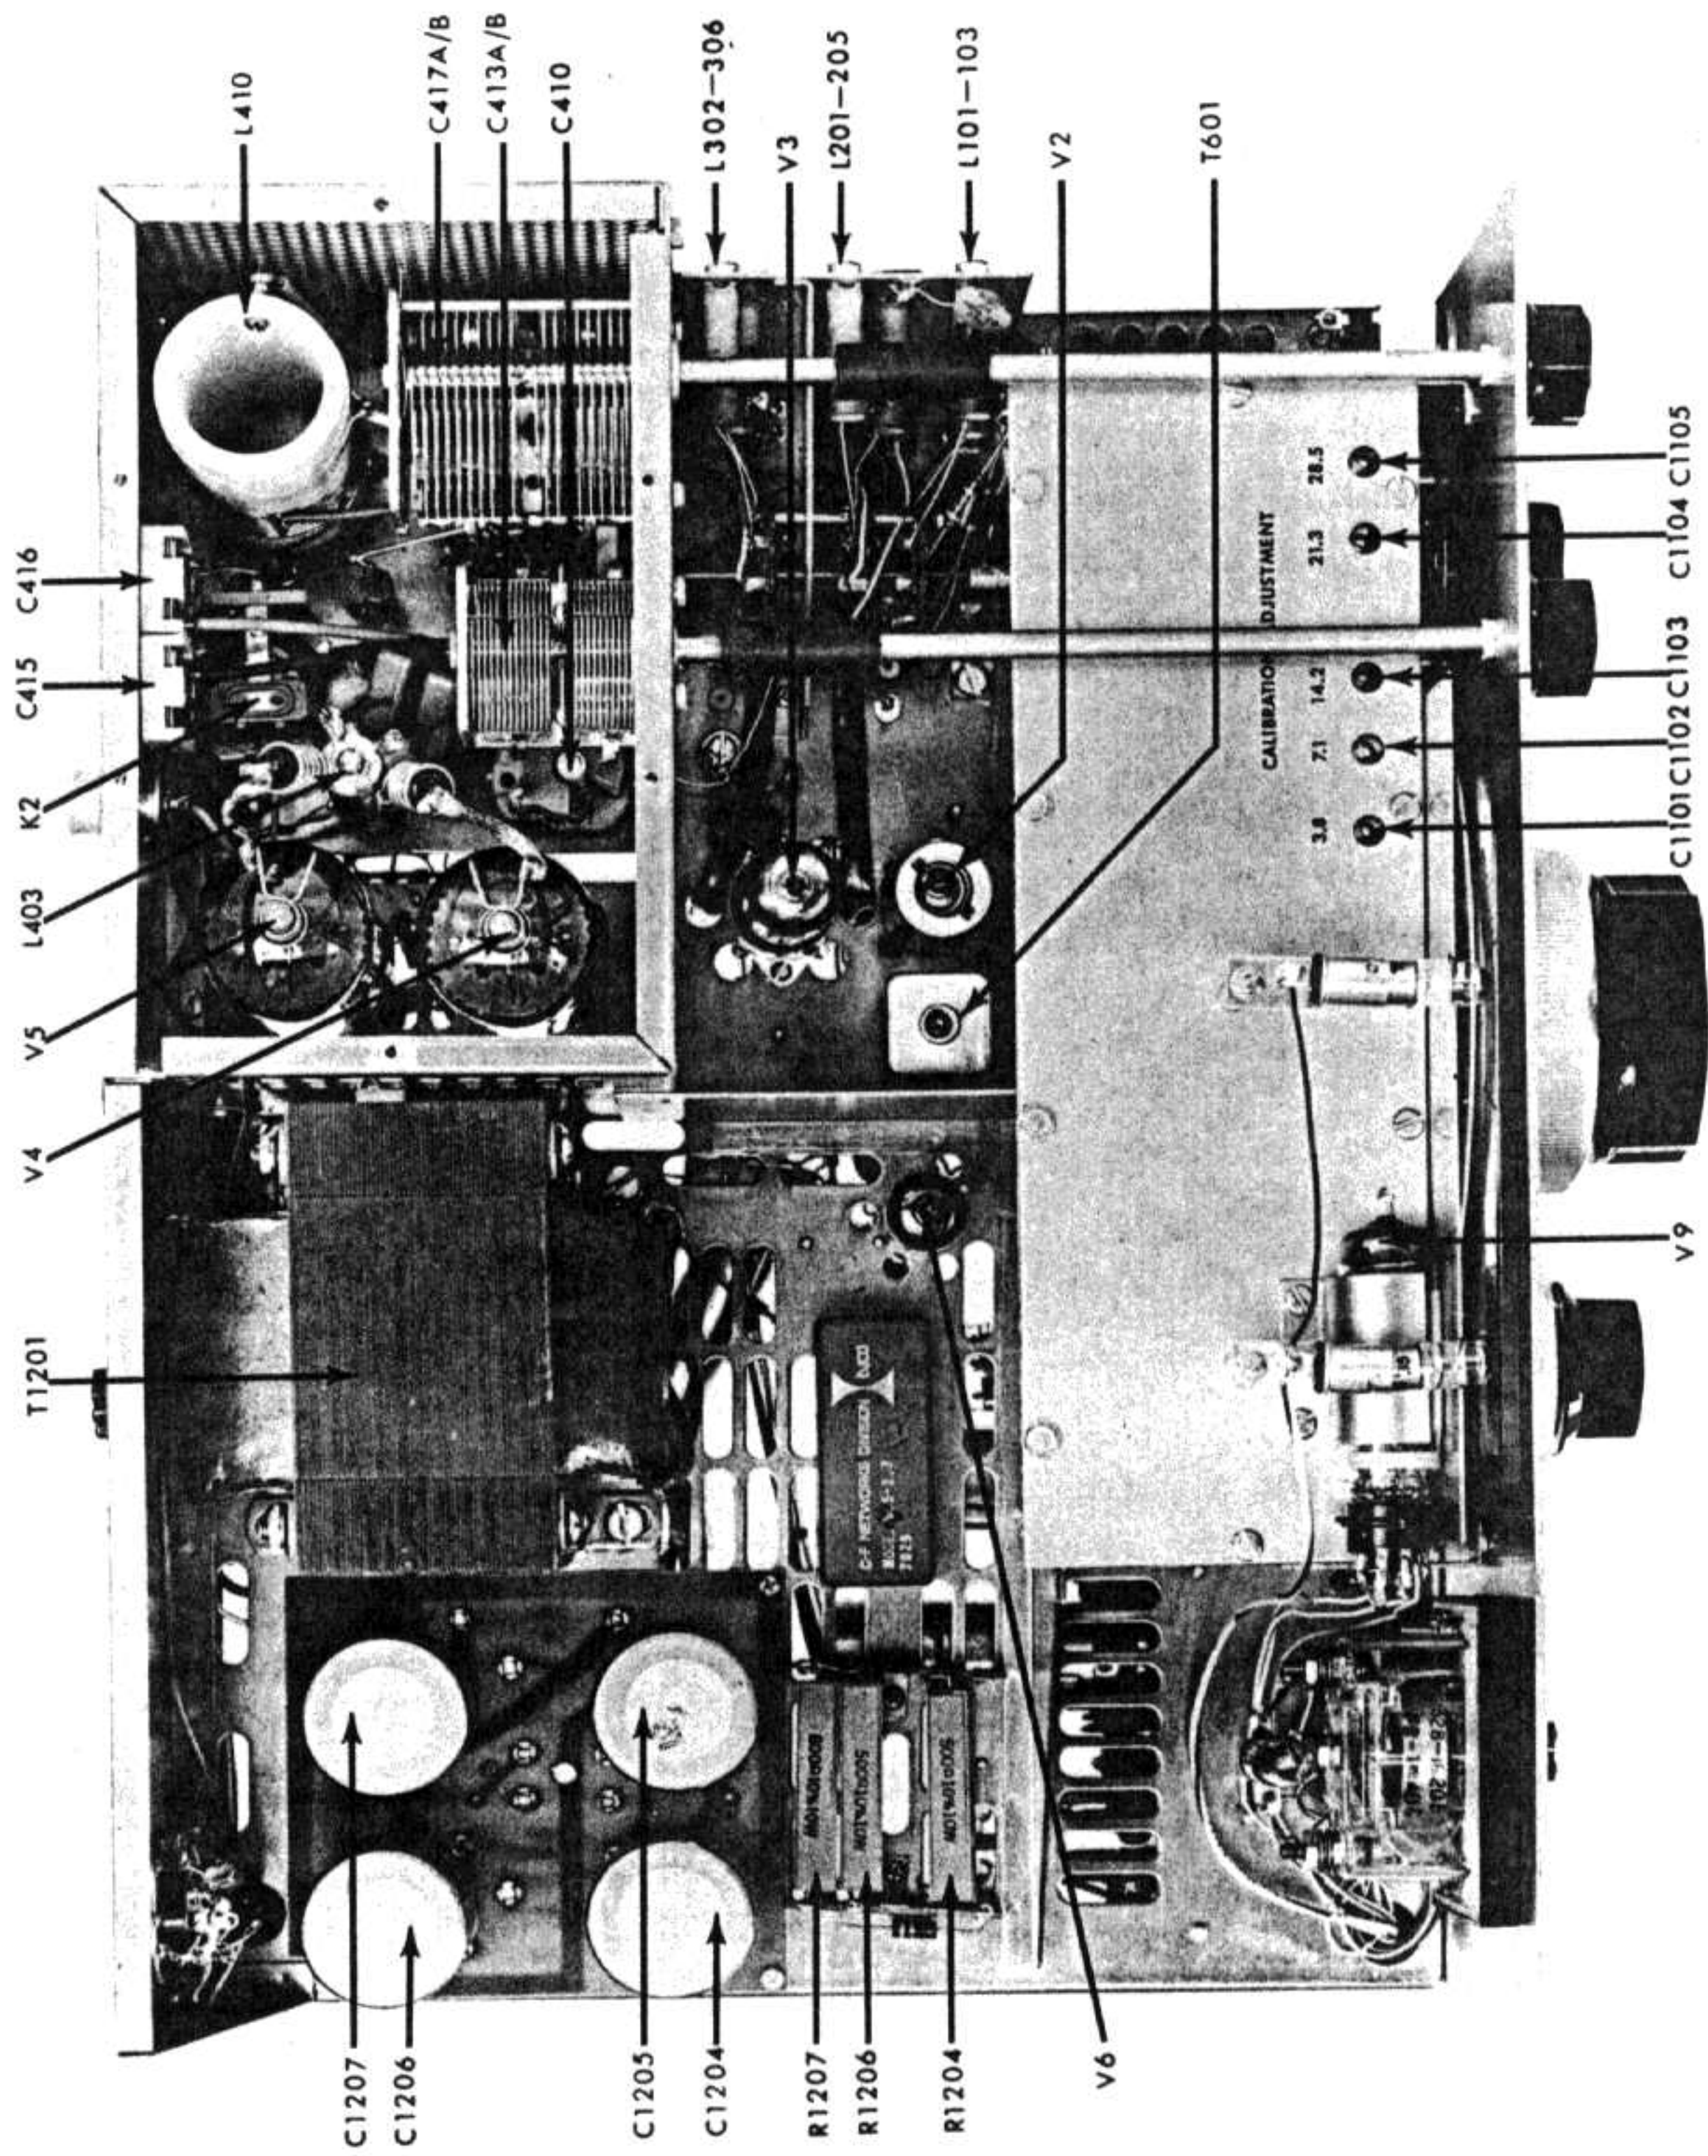
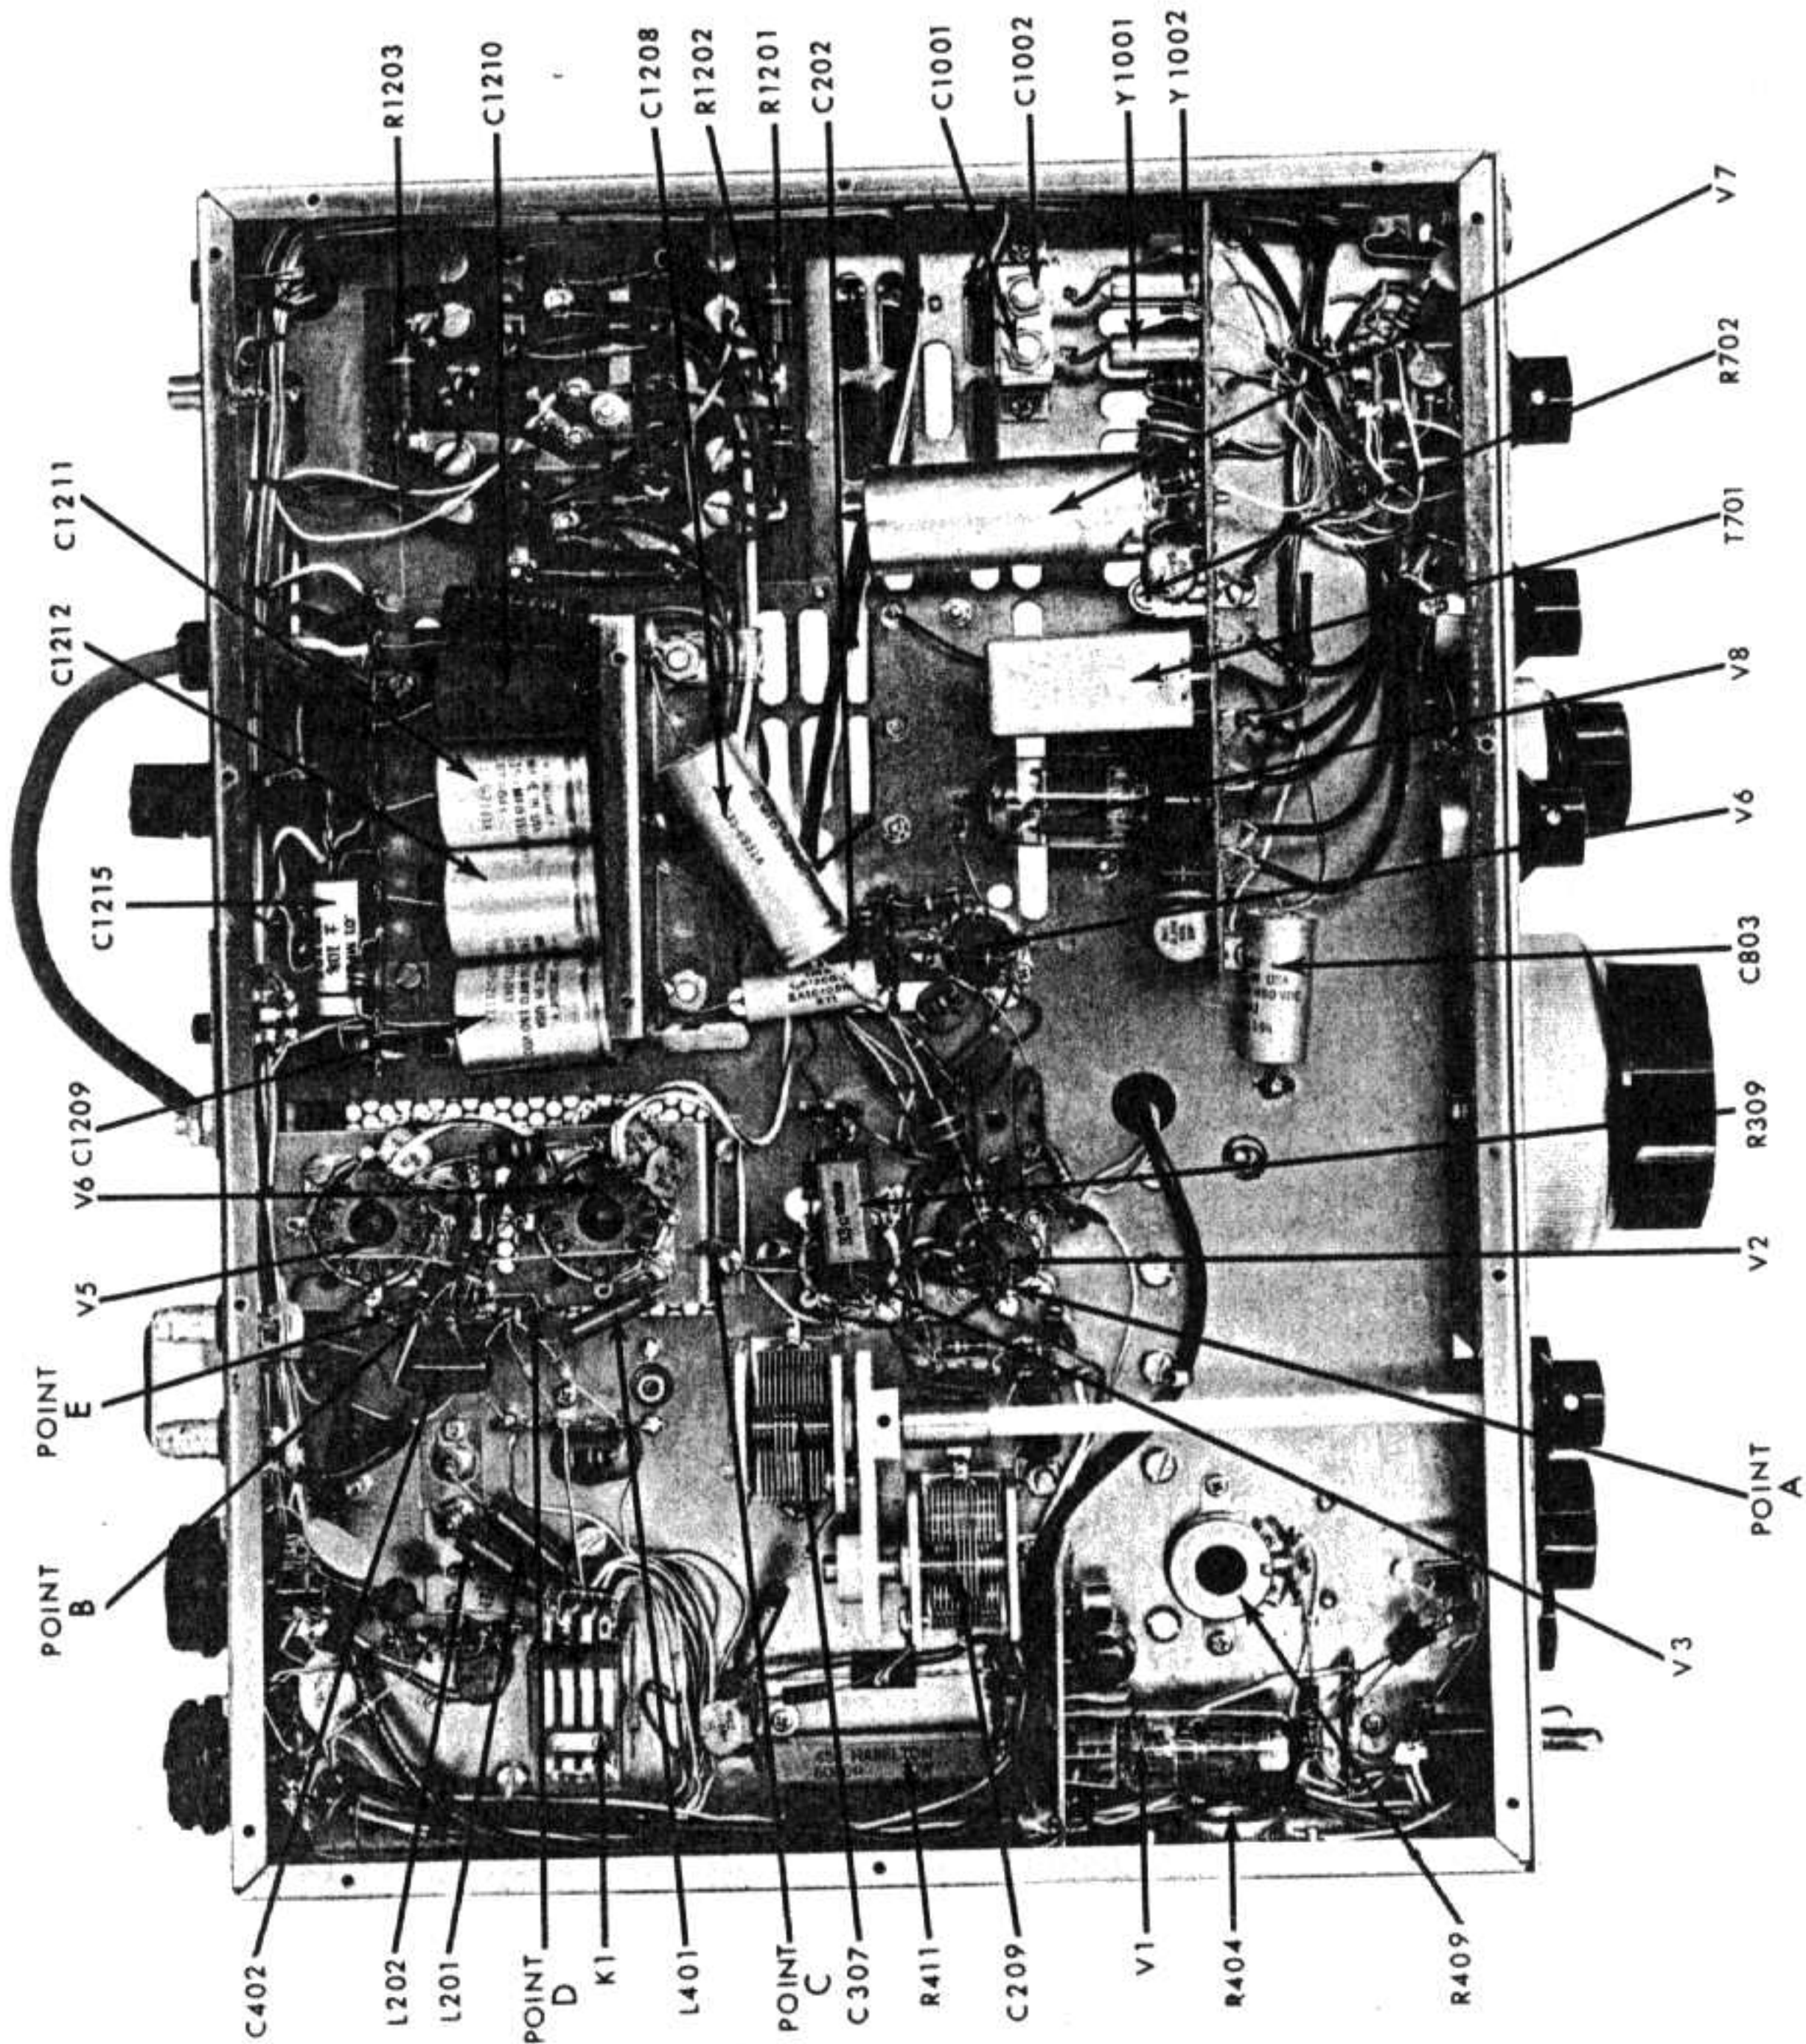

FIGURE 4. TOP VIEW OF 600-T
FIGURE 5. BOTTOM VIEW OF 600-T
- ① Set MAIN TUNING dial to 0.
- ② Rotate DIAL SET control to 0.
- ③ Connect VTVM from pin 1 of the Mixer (Point A, Figure 5), V2, to ground.
- ④ Set VTVM on 30 volt AC scale.
- ⑤ Set BAND SWITCH to 7.1, 21.3, or 10M (28.5) position.
- ⑥ Place Function Switch in TRANS position.
- ⑦ Adjust VFO injection coils for peak VTVM reading as follows.
- ③ Set BAND SWITCH to 3.8, 7.1, 14.2, 21.3, or 10M position. (See chart below.)
- ④ Remove screen voltage from V4 and V5 by disconnecting the orange wire from the terminal strip immediately adjacent to the base of V5. (Point B, Figure 5.)
- ⑤ Loosely couple field strength meter to C303 (off pin 5 of V4) with alligator clip on capacitor body. (Point C, Figure 5.)
- ⑥ Connect VTVM across R402, 1K resistor between pins 1 and 6 of terminal strip, using the 30 volt DC scale. Connect the positive lead to pin 1 (Point D, Figure 5), and the negative lead to pin 6 (Point E, Figure 5.)
- ⑦ Place Function Switch in TRANS position.
- ⑧ Adjust HIGH POWER P.A. BIAS control fully clockwise. (Maximum Bias Voltage.)
- ⑨ Adjust the BAND SWITCH and P.A. GRID control as shown in the chart below.
- ⑩ Place Function Switch in the TUNE position.
- ⑪ Adjust Mixer and Driver coils for peak VTVM reading.
peak at same time, since it is possible to tune the coils to the VFO frequency on 10 meters. Care must be taken that the coils be tuned properly. Following the above procedures, replace the orange screen voltage wire to pin 1 of terminal strip adjacent to V5. (Point B, Figure 5.)
- ① Tune transmitter up on 14,200 kc into a dummy load.
- ② Balance out the carrier.
- ③ Feed 1500 cycles of audio from the Audio Generator into the MIC. input jack.
- ④ Adjust the gain of the Audio Generator, and the MIC. GAIN control until the wattmeter reads about 10 to 15 watts.
- ⑤ Adjust both slugs of the Balanced Modulator transformer T701, for maximum output. (See Figure 5.)
- ⑥ Adjust the I.F. Amplifier, V6, transformer, T601, for maximum output. (See Figure 4.)
- ⑦ Increase the gain of the Audio Generator until the wattmeter reads 40 watts. Sweep the generator down to 300 cycles.
- ⑧ Adjust the NORMAL SIDEBAND CARRIER FREQUENCY ADJUSTMENT TRIMMER, C1002, for a reading of 10 watts. (See Figure 5.)
- ⑨ Switch SIDEBAND SELECTOR switch to OPPOSITE.
- ⑩ Adjust OPPOSITE SIDEBAND CARRIER FREQUENCY ADJUSTMENT TRIMMER, C1001, for a reading of 10 watts. (See Figure 5.)
- ⑪ Re-check with Audio Generator set at 1500 cycles and 40 watts. Sweep down to 300 cycles and re-adjust CARRIER FREQUENCY TRIMMERS, if necessary for 10 watts input.
- ① Connect a dummy load to the transmitter.
- ② Connect the VTVM across the dummy load, or across the coax. line.